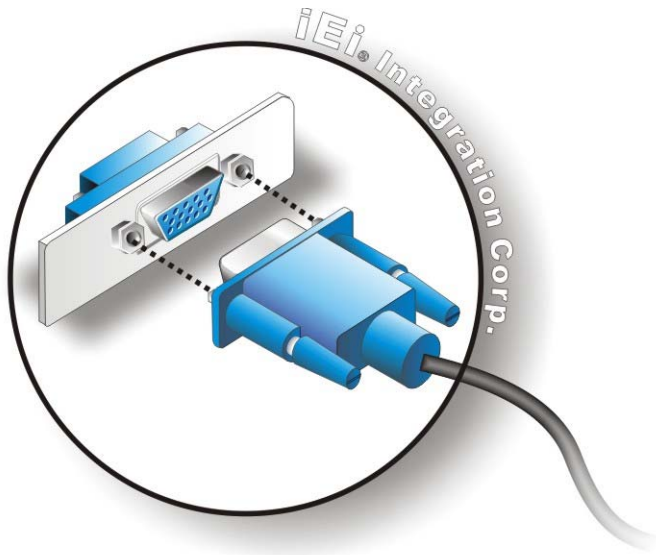

Figure 4-19: VGA Connector
- Step 3: Insert the VGA connector** Once the connectors are properly aligned with the insert the male connector from the VGA screen into the female connector on the KINO-HM551. See Figure 4-19.